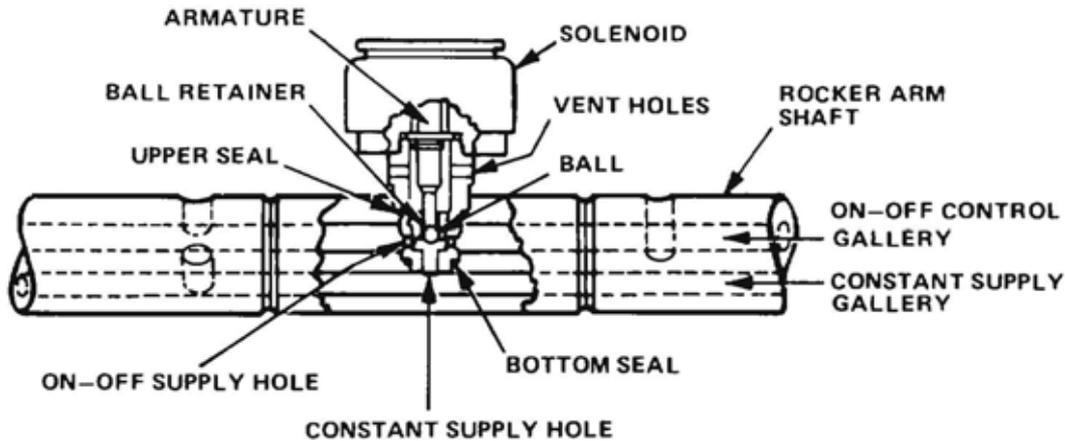

Figure 45 Dynatard Control Valve and Solenoid
63. To control the oil supply to the upper chamber of the control piston, a solenoid and ball valve assembly has been used. The assembly is installed on the rocker arm shaft where the upper and lower oil passages are connected (Figure 45). One solenoid is used on each rocker arm shaft. In the Dynatard off position, oil flows from the constant supply gallery past the solenoid control valve ball, which is on its upper seat, into the on-off gallery and into the upper chamber of the control piston, resulting in normal engine operation.